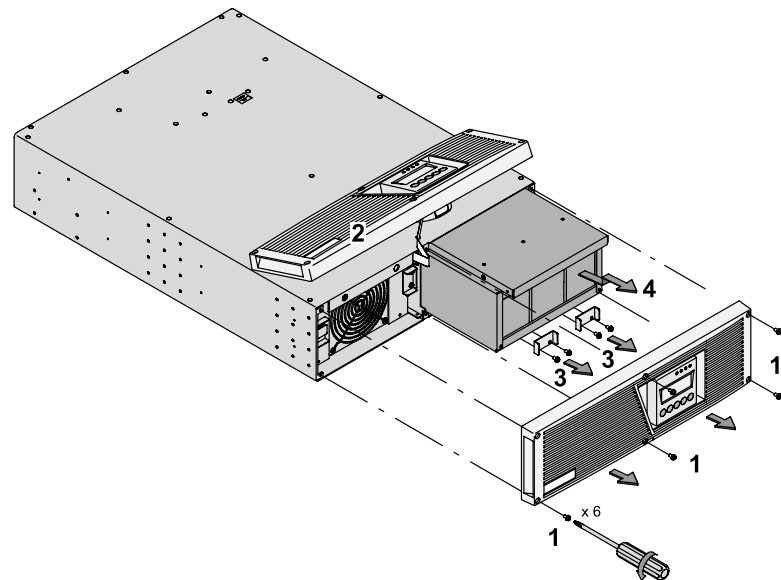

Figure 5. Removing the Battery Tray
2. Recommended. Remove the UPS battery tray (see Figure 5):